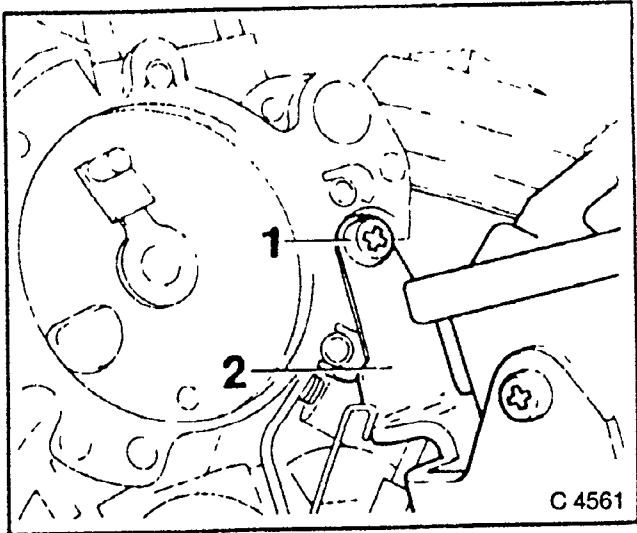

Fig. 217
If present, fastening screw (1) of gas bubble separator (2) — Fig. 217.